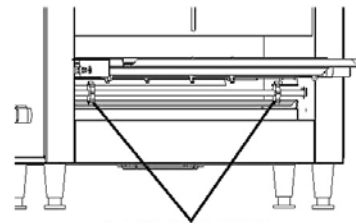

Fig 2. Conveyor Drive Sprockets
4. Now that the links have been unhooked, the conveyor can now be carefully removed from the oven. Standing at one end of the oven. Starting with the end on the bottom, roll the conveyor belt until it has been totally removed. Take careful notice being sure not to damage the heater tubes and working it over the drive sprockets (see Fig. 2)
7. Reinstall conveyor belt by first laying the belt along the bottom of the oven cavity making sure the hooks on the sides are facing the inside and ends of the hooks will be pointing away from the direction of the belt so not to catch on any internal components once put abck into operation. Also, being sure to properly align the belt over the conveyor drive sprockets shown in Fig.2.